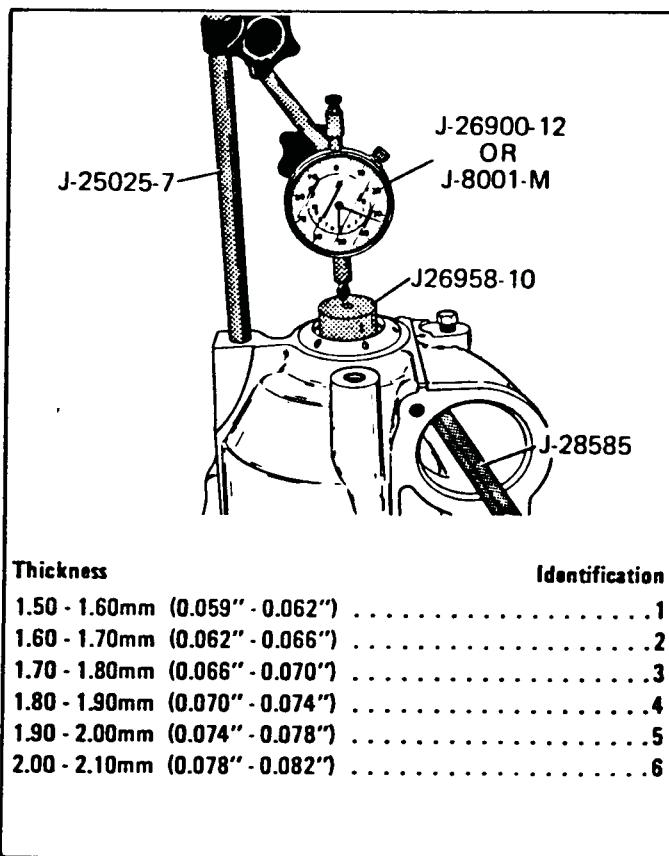

Figure 68
1. Install J-26958-10 (Same as 125) thru into final drive (See Figure 68).
2. Install dial indicator on transaxle as shown in Figure 68. Stem of indicator must contact J-26958-10.
3. Lift final drive with large screwdriver thru governor hole as shown in Figure 68, and read dial indicator.
4. Correct end play is .005" - .025". Correct as necessary using the chart in Figure 68 for selective sizes.